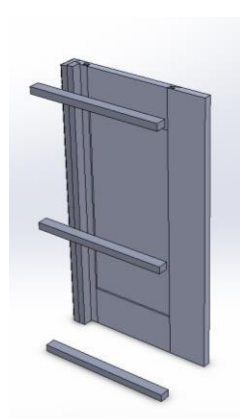

Fig. 37
- fix the mounting plates using plastic angle brackets (Fig. 37)